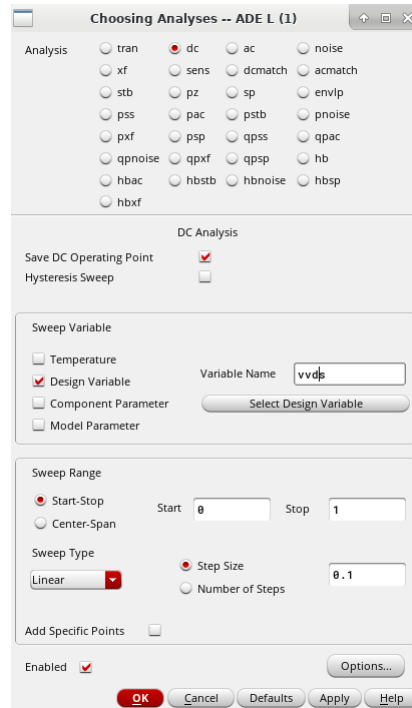

Figure 29: Changing sweep variable to “vvd”
1. Set up DC analysis as before, but instead select “vvd” in “Variable Name” (Figure 29).